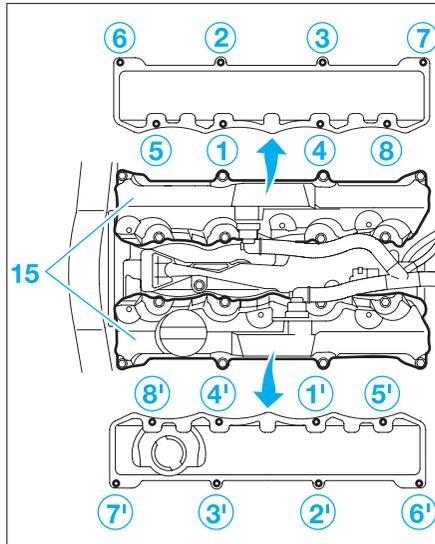

FIG. 29
- Reposer les couvre-culasses (15) (Fig.29).